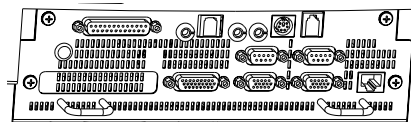

Figure 4-5: Screw placement for drawer assembly
2. Remove the screws (refer to *Figure 4-5* below) that attach the rear panel to the monitor.